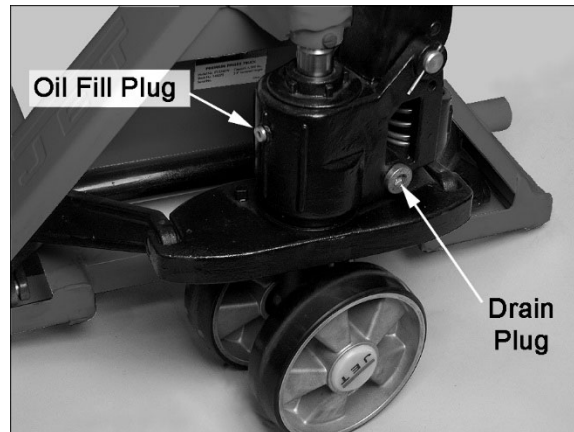

Figure 7
Check the oil level *annually* by unscrewing oil fill plug (Figure 7). When changing or adding oil, fill the reservoir through the plug hole to 80% capacity (approximately 2 inches deep) with hydraulic jack oil. Do not overfill.
4. Turn the pallet truck upright. Remove drain plug (see Figure 7) and empty the oil into a suitable container. Pump handle until all oil has drained.
1. Remove drain plug (see Figure 7), and empty the oil into a suitable container. Pump handle until all oil has drained.